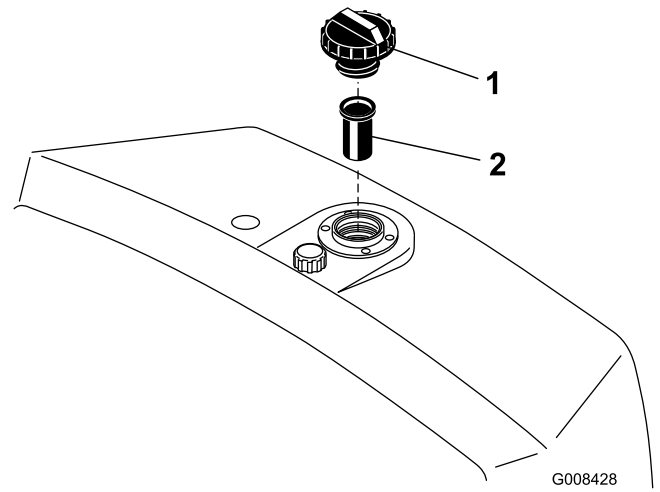

Figure 27
2. Remove the cap from the reservoir and check the level of fluid. The fluid should be up to the bottom of the screen in the filler neck (Figure 27).